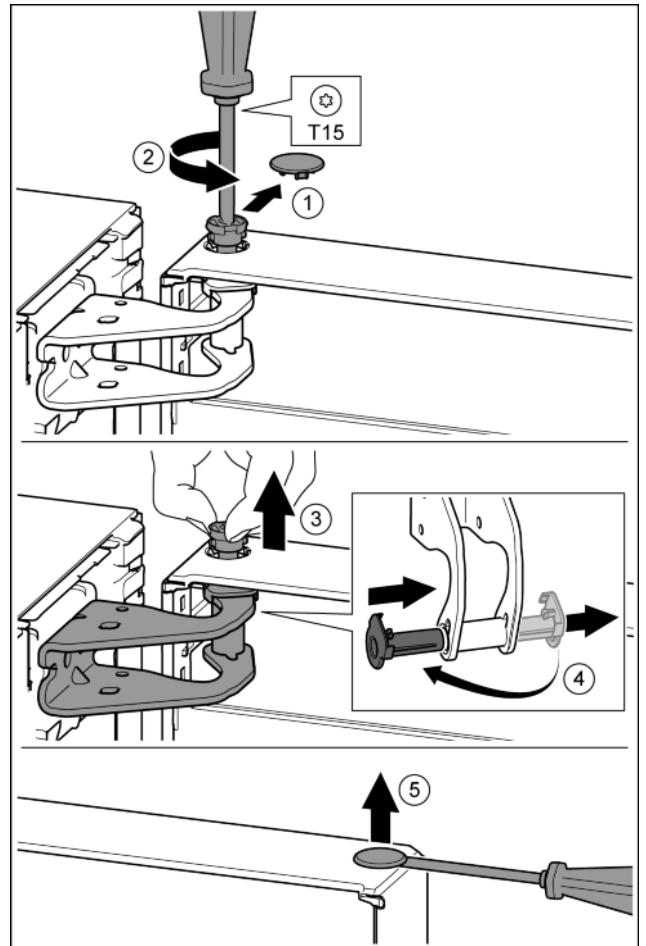

Fig. 8
- ▶ Carefully remove the protective cover. *Fig. 8 (1)*
- ▶ Undo the bolt a little with a T15 screwdriver. *Fig. 8 (2)*
- ▶ Hold the door and remove the bolts with your fingers. *Fig. 8 (3)*
- ▶ Pull the bearing bush out of the guide. Insert from the other side and click into place. *Fig. 8 (4)*
- ▶ Carefully lift the plugs out of the door bearing bush with a slotted screwdriver and remove. *Fig. 8 (5)*